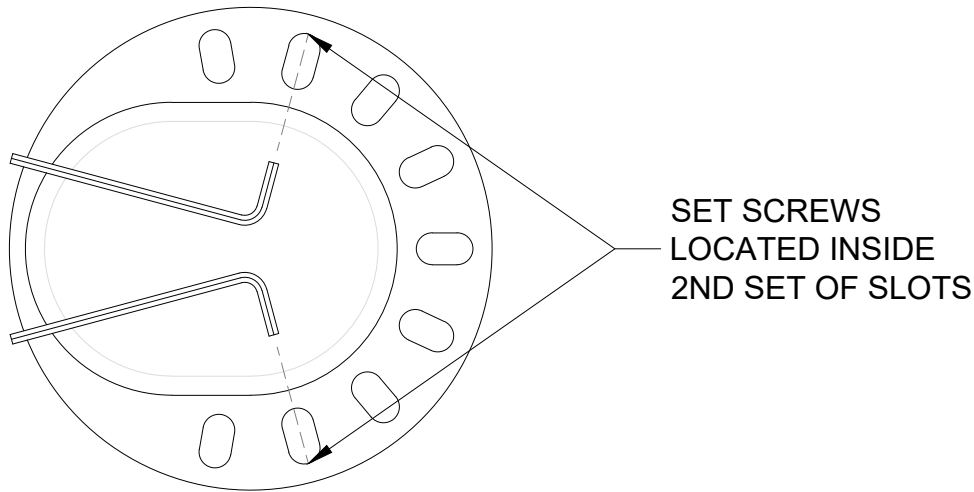

Figure 2
2. Verify that power to fixture is off. Loosen set screws located on Top Plate inside the two oval holes with a 5/64" hex wrench (Figure 2). Lift fixture assembly off Brass Tubing and place adjacent to fixture location.
2. Loosen set screws located on Top Plate inside the two oval holes with a 5/64" hex wrench (Figure 2). Lift fixture off Brass Tubing and place adjacent to fixture location.